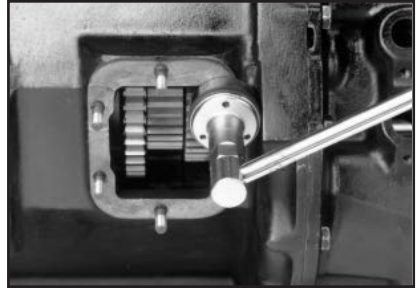

Fig. 4
4. Install the six or eight studs until the shoulder of the stud is flush with the transmission mounting surface (Fig. 4).